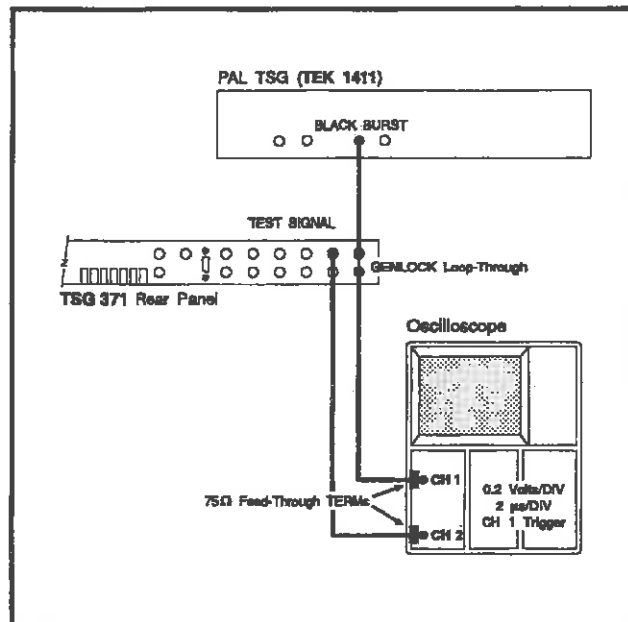

Fig. 5-3. Checking Genlock and Sync Timing Ranges.
- Connect test equipment as shown in Fig. 5-3.